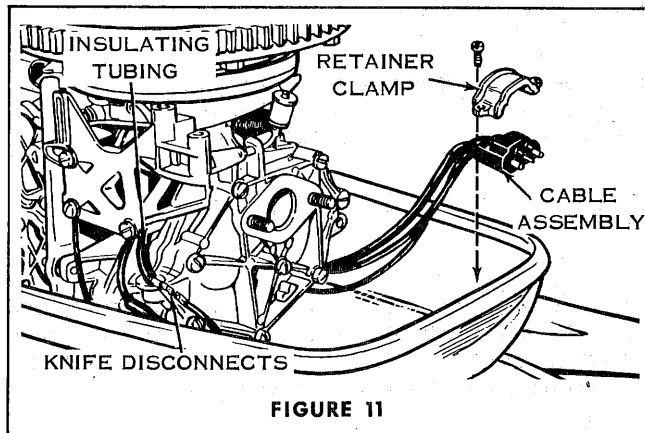

FIGURE 11
6. Slide insulating tubing from shorting switch wires toward magneto to expose knife disconnects. See figure 11. Disconnect leads from shorting switch. Then remove shorting switch assembly from lower front motor cover. The motor is now ready for installation of the electric starting kit.
1. Mount the cable assembly in lower motor cover with the large pins down and key into slot. Secure to cover with the retainer clamp and two screws provided. Next, connect the two small black wires from cable assembly to the shorting wires (black) from magneto then slide insulating tubing over connections. See figure 11.